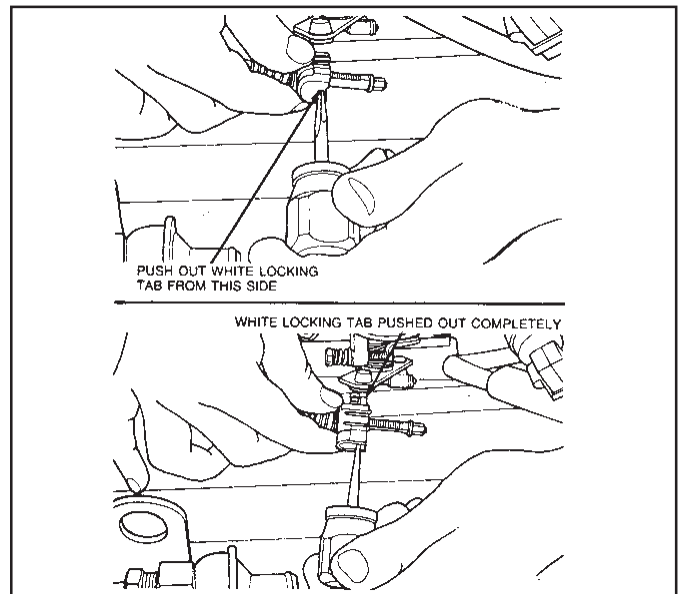

Figure 21
6.4 Check to ensure plastic block with pin and tab slides freely on notched rod. If it does not slide freely, the white tab may not be pushed out far enough. **(See Figs. 21 & 22.)**